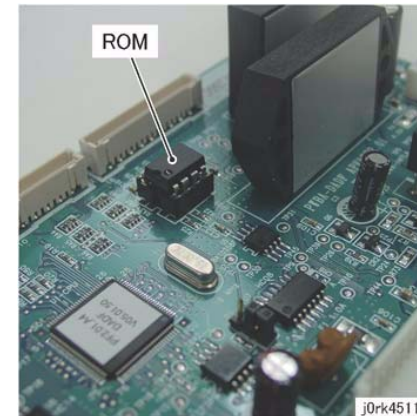

Figure 3 ROM
2. Switch the ROM on the new PWB with the EEPROM from the old PWB. (Figure 3)